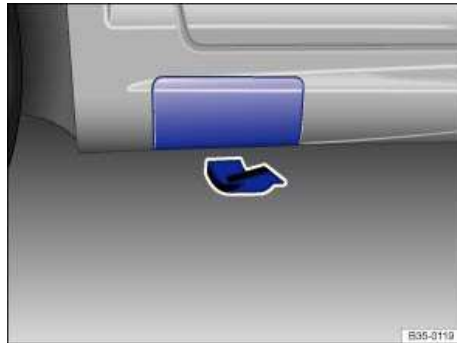
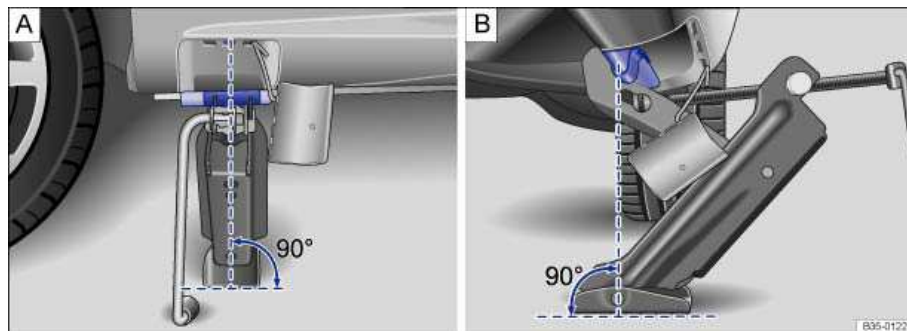

Fig. 193 Vehicle jack lift point in the side sill: Fold the cover up.
Fig. 194 Jack in position at the left rear lift point.
The jack must be positioned at one of the 4 lift points located behind covers on the vehicle frame. The covers must be open ⇒ fig. 193 to position the jack properly ⇒ fig. 194. You must use the lift point closest to the wheel being changed.
8. Remove the cover panel in the side sill. To do so, pull forcefully but carefully in the direction of the arrow ⇒ fig. 193. Secure the cover panel with the retaining strap.
10. Position the jack so that its base is directly underneath the lift point ⇒ fig. 194, making sure that the entire base of the jack rests securely on the ground.
11. Align the jack and wind up the jack claw at the same time, until the claw cradles the vertical rib underneath the vehicle ⇒ fig. 194.
- ☐ Position the jack only at the described vehicle lift points. Before you raise your vehicle, always make sure the jack claw properly grips the vertical rib under the sill so that the jack does not slip off when you are raising the vehicle ⇒ fig. 194.